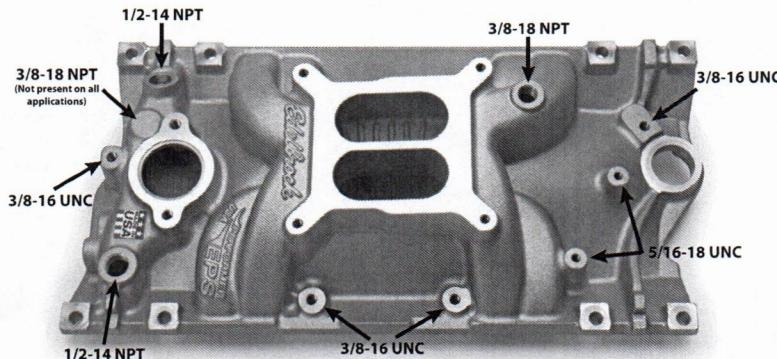

**Figure 3 - Vortec/E-Tec Manifold Bolt Torque Sequence**
- 5b. Install the intake manifold and hold-down bolts. On applications with Vortec or E-Tec cylinder heads, torque all of the manifold bolts in two steps by the sequence shown in **Figure 3** to 11 ft/lbs